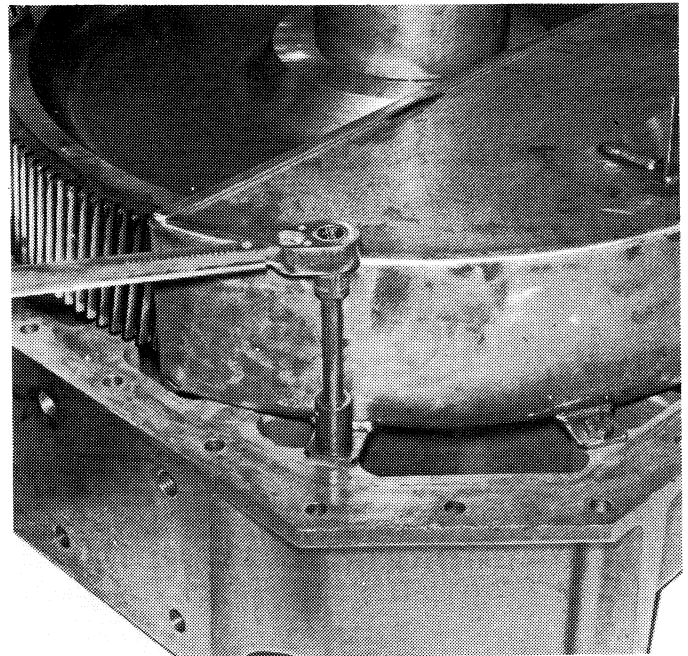

Figure 6-28. Removing or Installing Oil Pan.
5. Remove four place-head screws (Figure 12-6, 32) from oil pan (31) and remove the oil pan. See Figure 6-28.